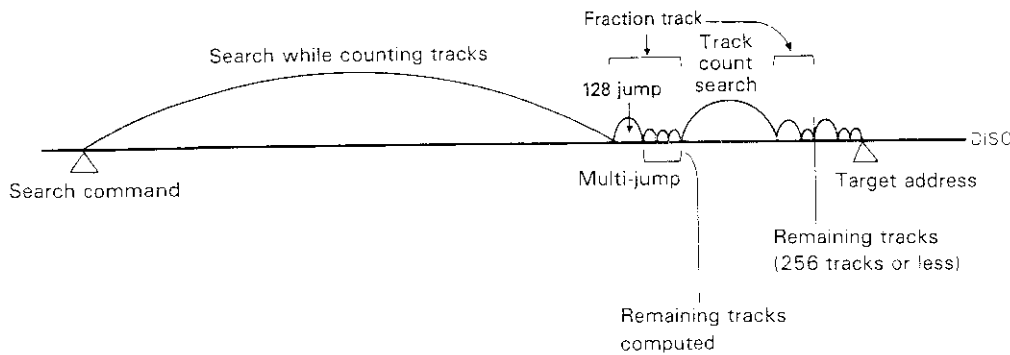

Fig. 41 Cross count search (When the target address is known)
• **Cross count search (Fig. 41)**